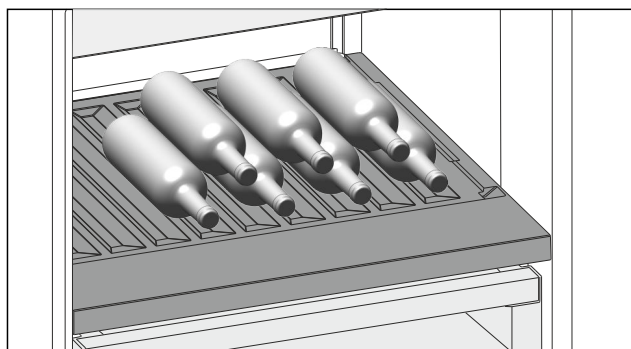

Fig. 122 Example illustration
- Insert the bottles facing backwards towards the rear wall. (see Fig. 122)